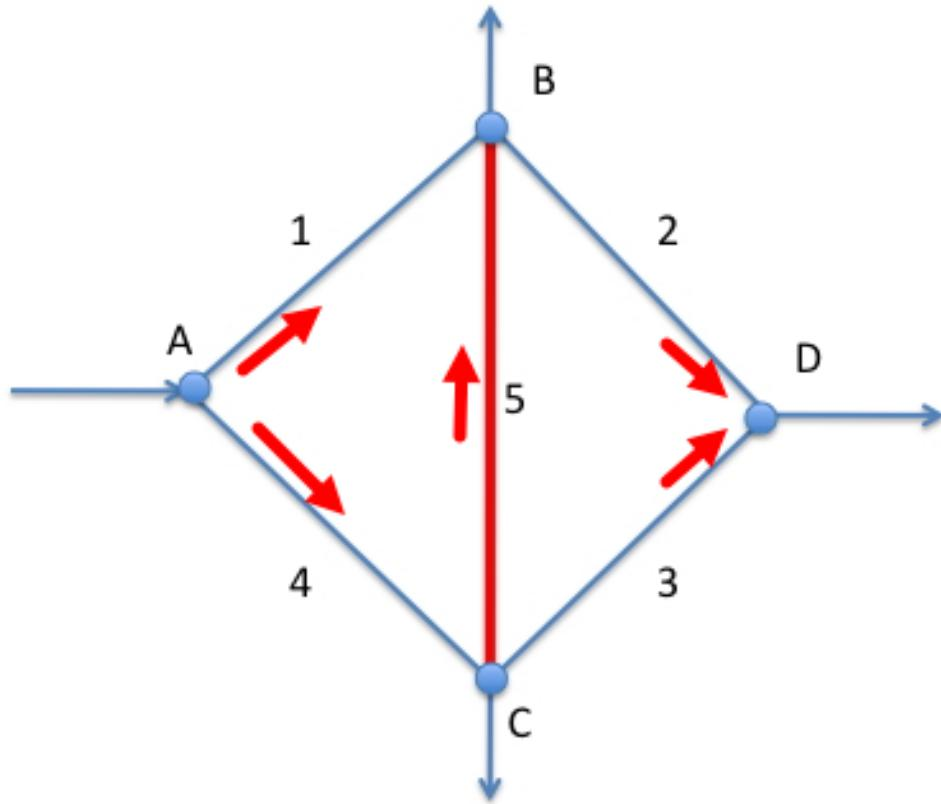

Figure 6: Pipe network
Figure 6 is a pipe network with the following properties:
Table 1: Network properties for Figure 6
11. Referring to Figure 6, and Table 1 the flow distribution is:
- (A) $[Q_1, Q_2, Q_3, Q_4, Q_5] = [0.30, 0.15, 0.15, 0.30, 0.00]$ LPS
- (B) $[Q_1, Q_2, Q_3, Q_4, Q_5] = [0.30, 0.15, 0.15, 0.30, 0.30]$ LPS
- (C) $[Q_1, Q_2, Q_3, Q_4, Q_5] = [0.30, 0.15, 0.15, 0.00, 0.50]$ LPS
- (D) $[Q_1, Q_2, Q_3, Q_4, Q_5] = [0.30, -0.15, -0.15, 0.30, -0.60]$ LPS
12. Referring to Figure 6, assuming the average friction factor is 0.033, the head loss, in feet, from Node A to Node C is closest to
- (A) 1.25 meters
- (B) 2.50 meters
- (C) 5.00 meters
- (D) 10.0 meters
13. Referring to Figure 6, if the demands at all nodes are those in Table 1, and pipe 2 is decreased to a diameter of 50.8 mm, the discharge in pipe 5 is closest to
- (A) 0.00 lps, from Node C to Node B
- (B) 0.15 lps, from Node B to Node C
- (C) 0.30 lps, from Node C to Node B
- (D) 0.60 lps, from Node B to Node C